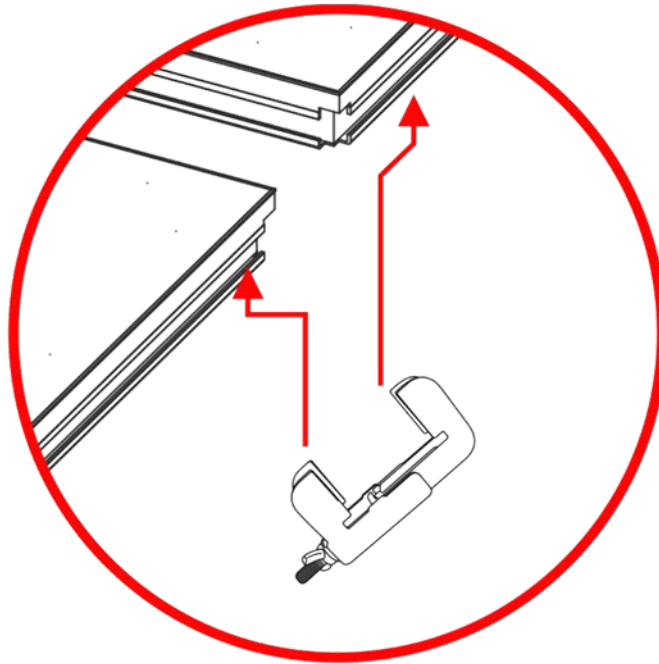

Fig. 05
- 02) In order to stabilize the two sets, attach the Spider Stage Bottom Clamp (**70636**) to the bottoms of both stage plates (see Fig. 05)